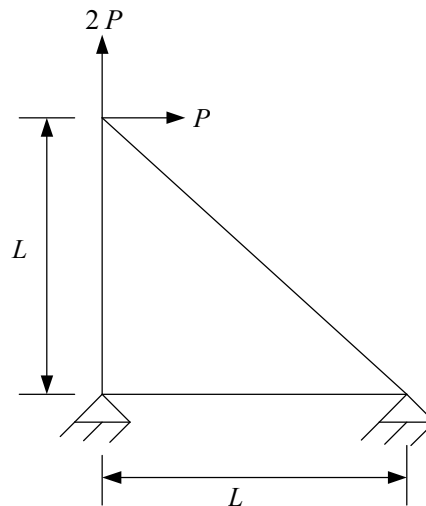

Fig. 3. Truss having three elements
Q.6(c) Analyze the truss shown in Fig. 3. The cross sectional area of the inclined member is twice the area of the horizontal and vertical members. The modulus of elasticity of all the members are constant and assumed to be 'E'? [6]